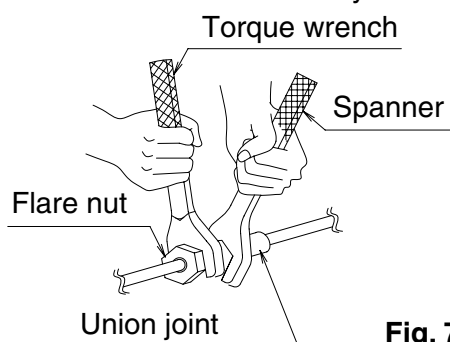

Fig. 7
- When connecting the pipings to the air conditioner, make sure to use a spanner and a torque wrench as shown in **Fig. 7**.